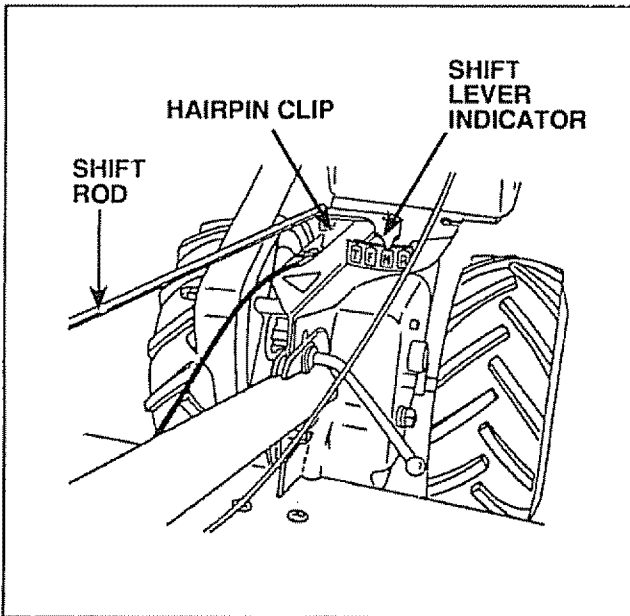

FIGURE 7
- Make sure Shift Lever Indicator (Fig. 7) is in "N" position.